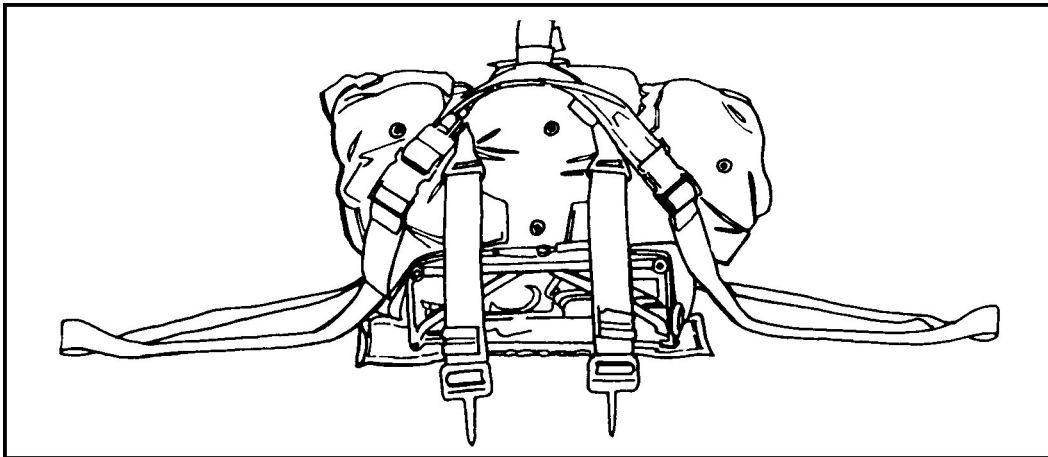

Figure 12-11. Leg straps routed.
d. Route the equipment retainer straps through their appropriate friction adapters and form a two- or three-finger quick release. S-roll the excess webbing and secure it with retainer bands. Do not secure the excess webbing to the quick release. Route the adjustable leg straps in the most direct route around the pack and attach the male portion of the leg strap release assembly to the female portion of the leg strap release assembly. Fold the excess webbing and secure it in the webbing retainer. Attach the HPT lowering line the same as with the standard H-harness (Figure 12-11).